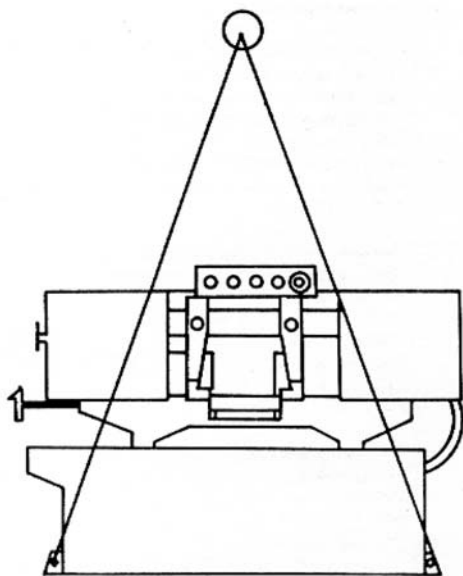

Figure 1
1. Using lifting straps that are isolated from the bandsaw's finished surfaces, place machine in desired location. See Figure 1 for strap placement.